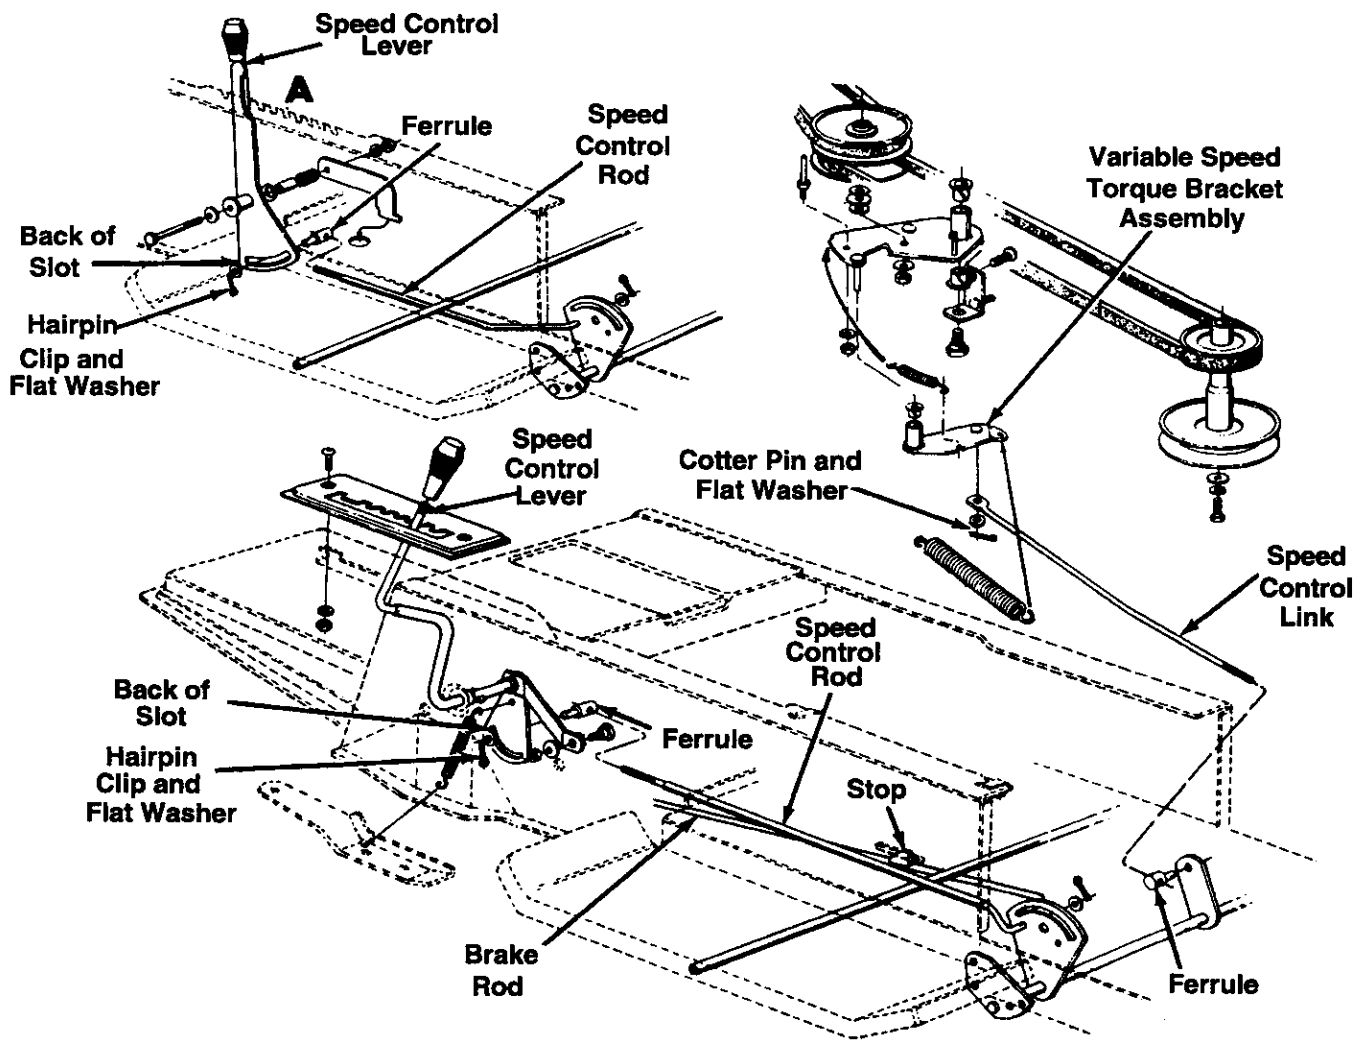

Figure 17
SPEED CONTROL ADJUSTMENT (See Figure 17)
1. Adjust the speed control lever by pushing the clutch-brake pedal forward until the stop on the brake rod is against the frame. See Figure 17. Have another person hold the pedal in this position as you make the following adjustment. Place the speed control lever in parking brake position. Remove the hairpin clip and flat washer, and adjust the ferrule on the rod so it is against the back end of the slot. See Figure 17. Then lengthen rod one more turn. Reassemble and secure with the flat washer and hairpin clip.